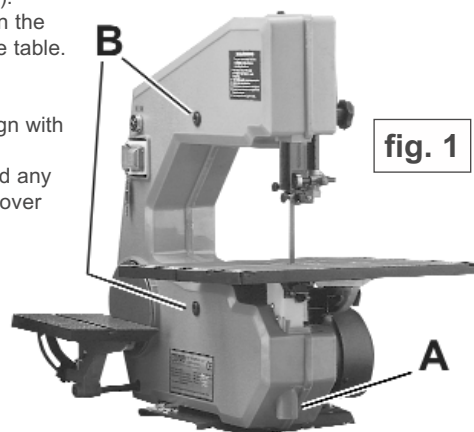

fig. 1
- 3.1.8. Connect extraction port (fig. 1.A) to dust extractor system (if available).
- 4.1.2. Unscrew the two front cover retainers (fig. 1.B) and remove the cover.
- 4.3.1. Unscrew the two front cover retainers (fig. 1.B) and remove the front cover.